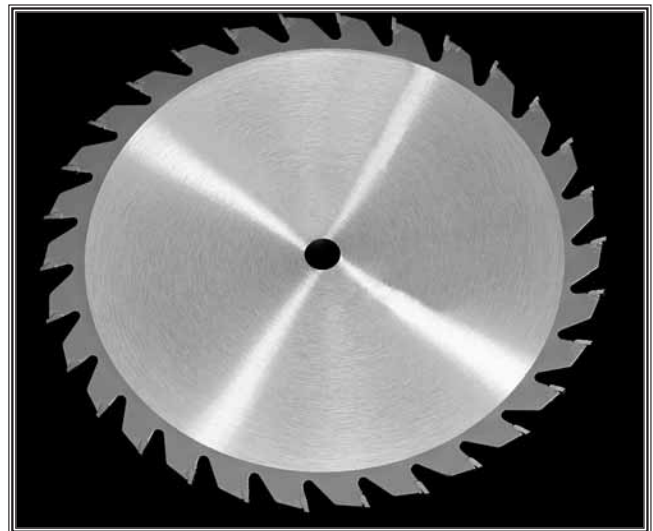

Figure 58. Rip blade.
- **Figure 58** shows an example of a rip blade. This style of blade typically has between 30-40 teeth and provides fast feed rates when making long cuts along the grain. The rip blade has large teeth that provide excellent chip clearance and minimize the chances of binding. Drawbacks to this type of blade are the rougher cuts that the large teeth leave in the stock.